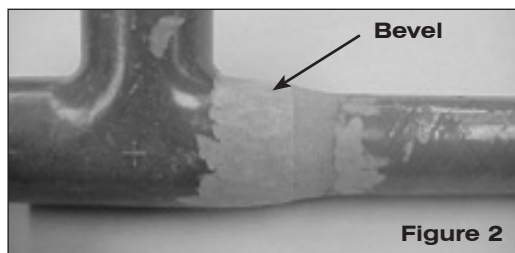

Figure 2
2. Bevel the shoulder of the bell with the grinder to blend it in with the pipe wall. There must be a smooth slope from the raised coupling, pipe bell end, or fitting to the pipe wall (see Fig. 2). A smooth transition between the two diameters can also be made by using one can of 8069 adhesive and hardener and two 8069 filler kits as a putty. This putty can be applied at the edge of the bell to form a slope which removes the step between the coupling, pipe bell end, or fitting and the pipe. The length (distance along the axis) of this putty compound should be held to a minimum, because the putty has limited pressure capabilities and is used only to ensure that the glass cloth is not laid over a sharp break in contour. Usually, 3/4" of tapered putty slope is sufficient.